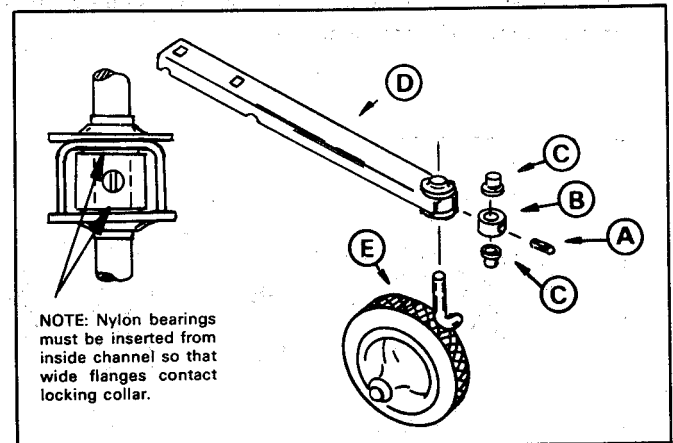

FIGURE 7.
FIG. 7. Insert set screws (A) into both lock collars (B). Assemble locking collar and two nylon bearings (C) inside each wheel support (D), as shown. Slide axle and gauge wheel assembly (E) through bearings and locking collar. Tighten set screw.